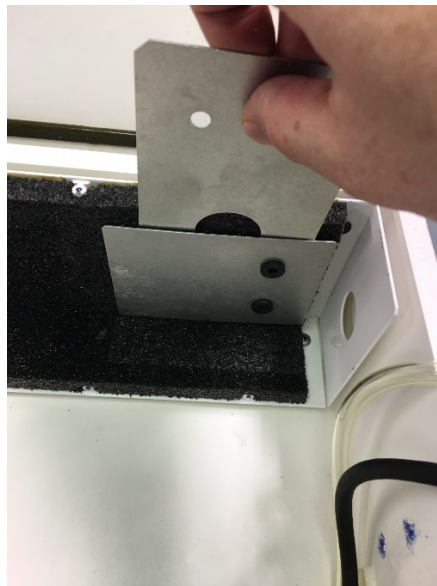

FIGURE H-5. Removal of original pump module inner plate and replacement with new inner plate provided in pump replacement kit
6. Using the “notched” end of the new inner plate, slowly pry away the original inner plate working around all sides and being careful not to damage the foam backing (FIGURE H-5).